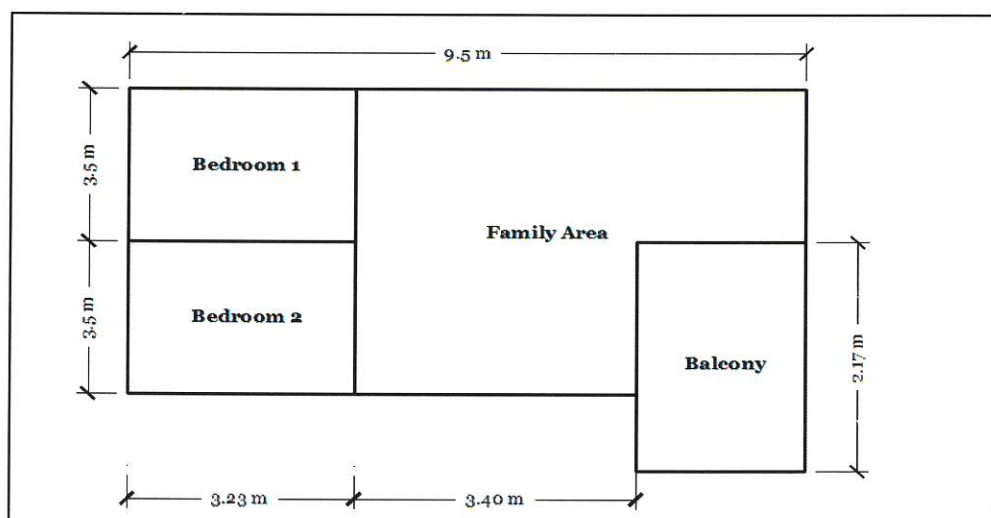

Figure B1(c) / Rajah B1(c)
- (c) Based on Figure B1(c), estimate the building cost by using Floor Area Method. Assume cost for  $1\text{m}^2$  is RM 550.00/ $\text{m}^2$ .